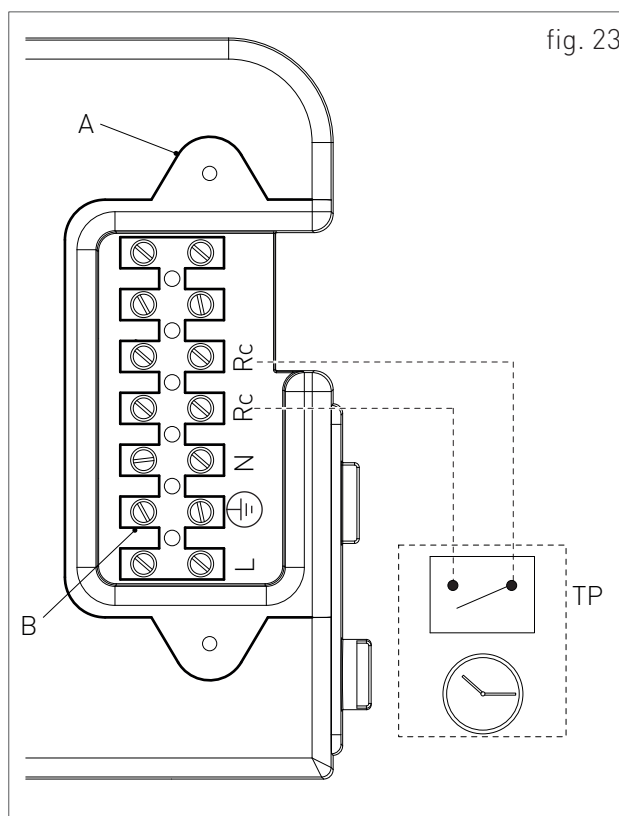

fig. 23
- › unscrew the screws and remove plate "A" (see fig. 23).
- › After removing the plate, connect the electrical cables to terminal "B" (see fig. 23);